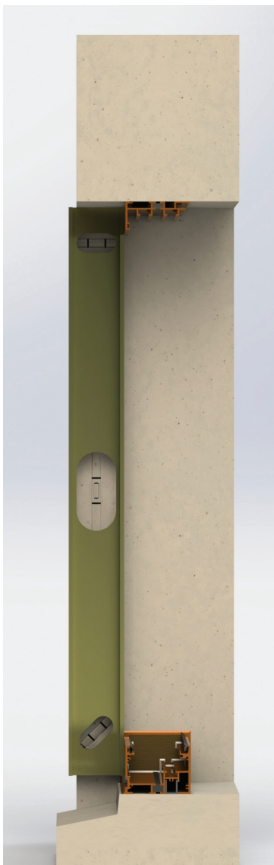

Fig. 10
- B. Use a story board or straight edge to level up from the sub-sill to locate the head receptor location. (Fig. 10)